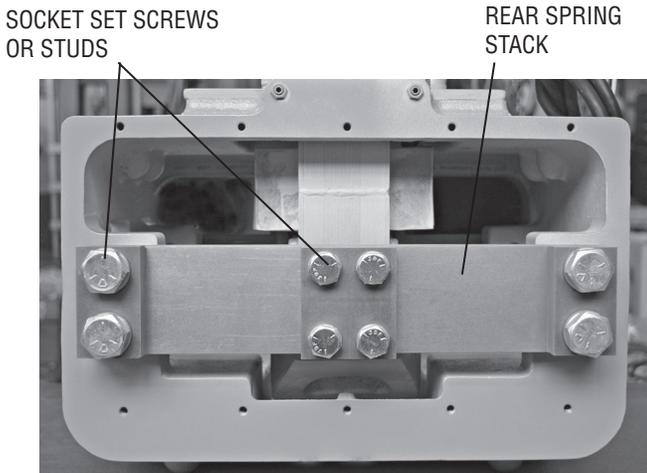

FIGURE 10
4. Insert dowel pins (threaded on one end) into same three hole locations. Thread size for outer holes is 1-8 UNC and center hole is 3/4-10 UNC. See Figure 10.
3. Insert dowel pins (threaded on one end) into same three hole locations. Thread size for outer holes is 1-8 UNC and center hole is 3/4-10 UNC. See Figure 10.